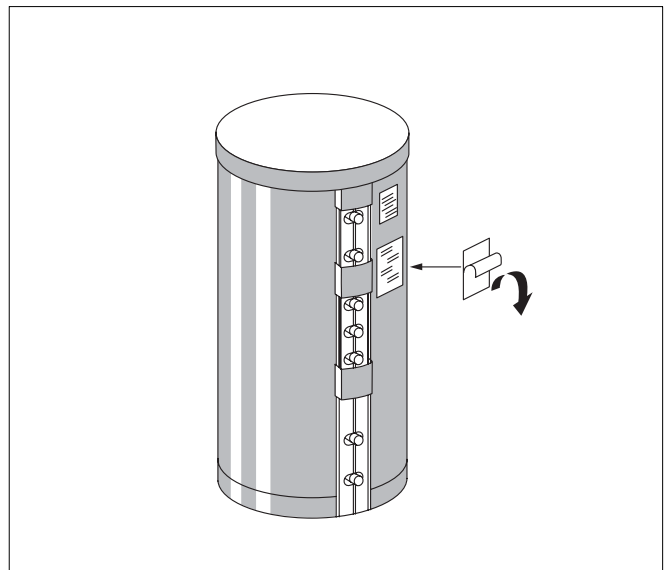

Fig. 13 Attaching nameplate
- Pull protective foil off the back of the nameplate and stick the nameplate under the existing smaller nameplate (Fig. 13).